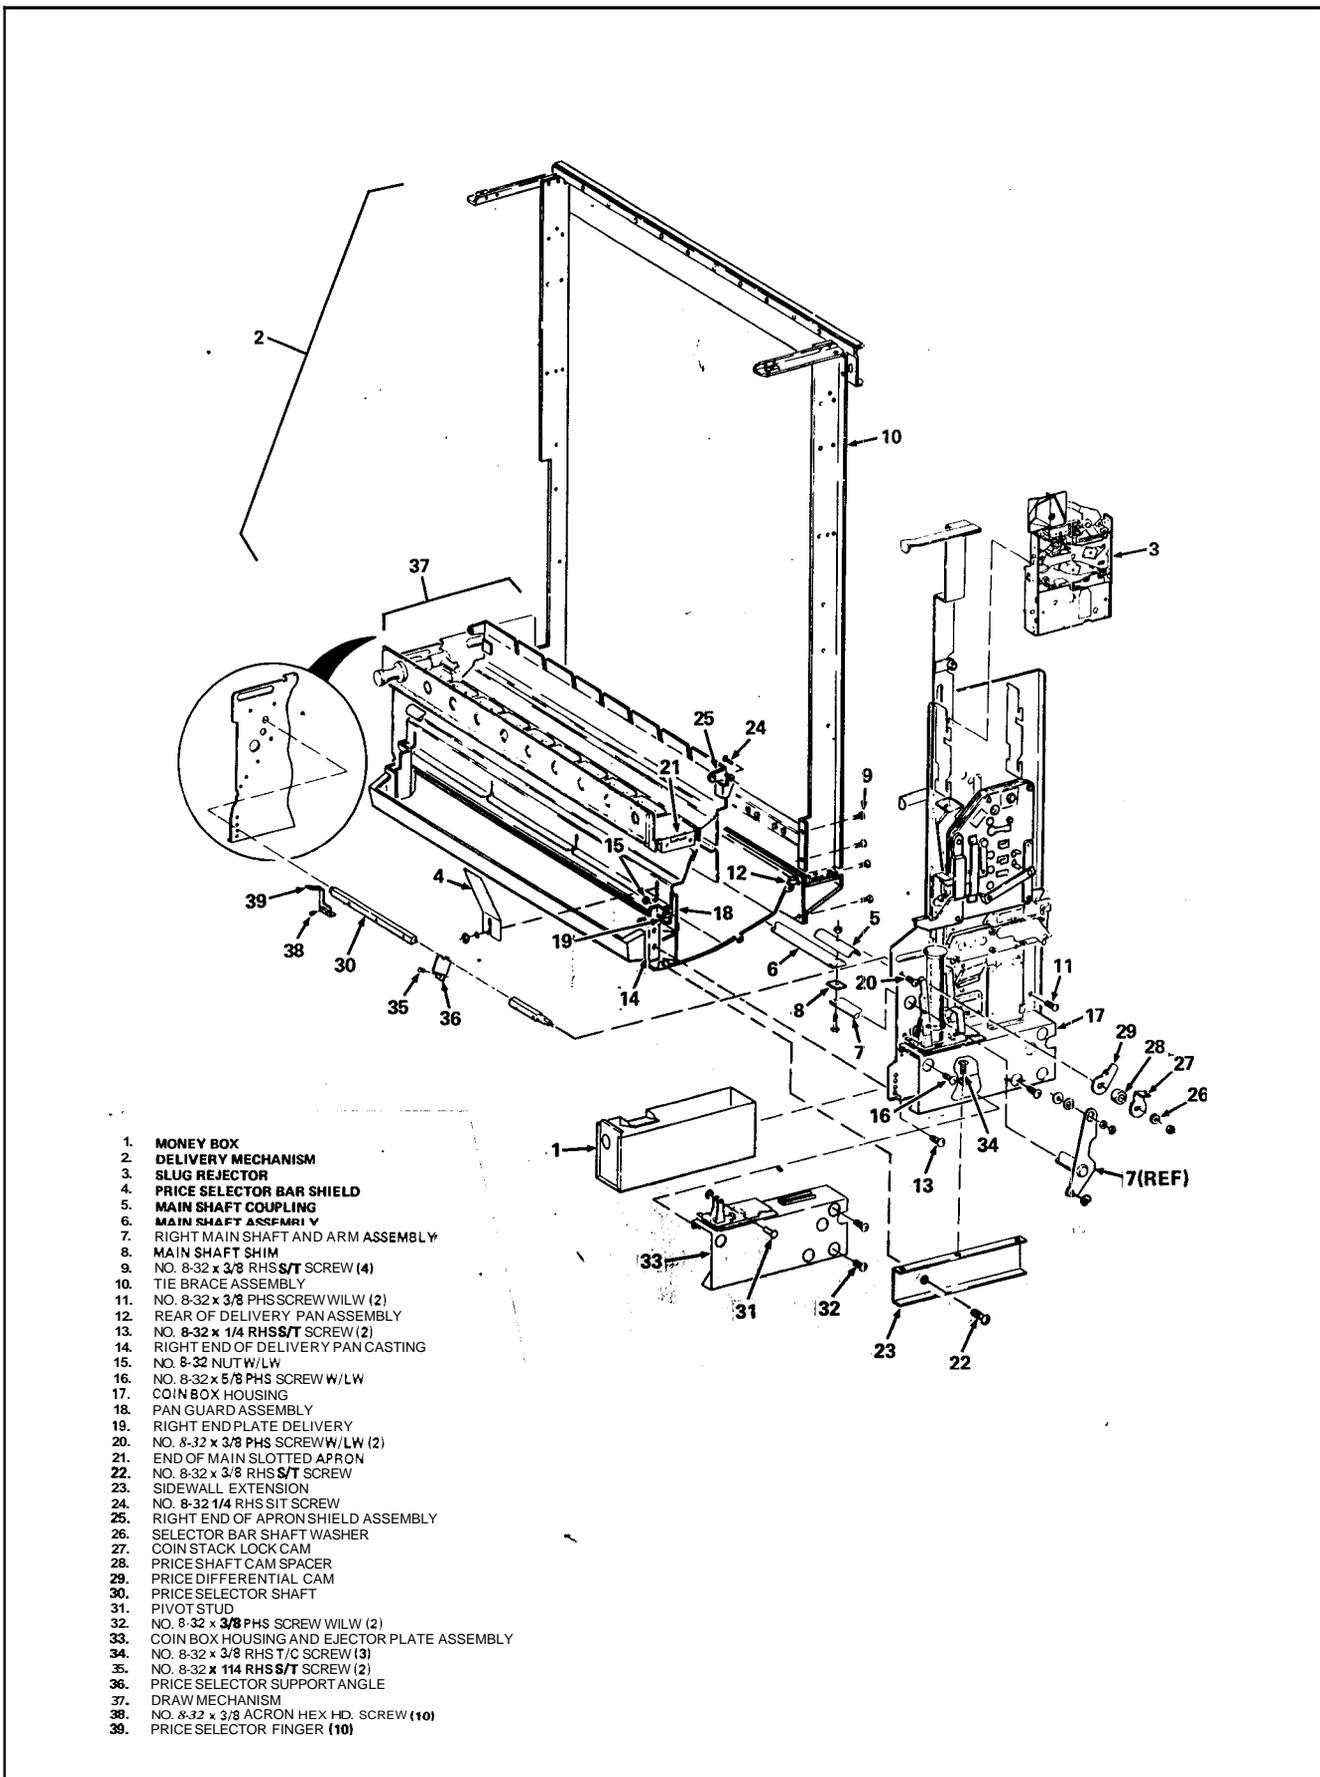

FIGURE 5-1
8. Remove the Delivery Mechanism from the Cabinet and lay on a suitable workbench. See Figure 5-1.
9. Remove the Slug Rejector Assembly from the Right Sidewall. Retain the Slug Rejector Assembly for use on the replacement Right Sidewall and ACMR Assembly. See Figure 5-1.
10. Loosen a No.8-32 Nut with Lockwasher and remove the Price Selector Bar Shield from the Pan Guard Assembly. Tighten the Nut. See Figure 5-1.
11. Remove a No.10-32 Nut, Main Shaft Bolt and Main Shaft Coupling from the left Main Shaft Assembly and Right Main Shaft and Arm Assembly of the Delivery Mechanism. Retain the No.10-32 Nut, Main Shaft Bolt, and Main Shaft Coupling for use during installation of the Kit. See Figure 5-1.
12. Remove the Main Shaft Shim from between the left Main Shaft Assembly and Right Main Shaft and Arm Assembly. See Figure 5-1.
13. Remove four No.8-32 x 3/8 RHS Self Tapping Screws attaching the Tie Brace Assembly to the lower rear part of the Right Sidewall. See Figure 5-1.
14. Remove two No.8-32 x 3/8 PHS Screws with Lockwashers attaching the Right Sidewall to the Angle Brackets on the rear of the Delivery Pan Assembly. See Figure 5-1.
15. Remove two No.8-32 x 1/4 RHS Self Tapping Screws attaching the Bracket on the right end of the Delivery Pan Casting to the front edge of the Right Sidewall. See Figure 5-1.
16. Remove a No.8-32 Nut with Lockwasher and No.8-32 x 5/8 PHS Screw with Lockwasher attaching the Coin Box Housing and front of the Right Sidewall to the Pan Guard Assembly and the Right End Plate Delivery. See Figure 5-1.
17. Remove two No.8-32 x 3/8 PHS Screws with Lockwashers attaching the Right Sidewall to the end of the Main Slotted Apron. See Figure 5-1.
18. Remove a No.8-32 x 3/8 RHS Self Tapping Screw attaching the Sidewall Extension to the front part of the Delivery Pan Assembly. See Figure 5-1.
19. Remove a No.8-32 x 1/4 RHS Self Tapping Screw attaching the inside of the Right Sidewall to the right end of the Apron Shield Assembly. See Figure 5-1.
20. Remove a No.10-32 Nut, Selector Bar Shaft Washer, Coin Stack Lock Cam, Price Shaft Cam Spacer and Price Differential Cam from the Price Selector Shaft. See Figure 5-1.
21. Remove the Right Sidewall Assembly from the Delivery Mechanism. See Figure 5-1.
22. Remove two Retaining Rings, a Washer, and the Right Main Shaft and Arm Assembly from the Right Sidewall. Retain the Right Main Shaft and Arm Assembly for use on the replacement Right Sidewall and ACMR Assembly. See Figure 5-1..
25. Remove a .125 Retaining Ring, Pivot Stud, two No.8-32 Nuts with Lockwashers, two No.8-32 x 3/8 PHS Screws with Lockwashers, and the Coin Box Housing and Ejector Plate Assembly from the Right Sidewall. See Figure 5-1.
26. Remove three No.8-32 x 3/8 RHS Thread Cutting Screws and the Sidewall Extension from the Right Sidewall. Retain the Sidewall Extension for use on the replacement Right Sidewall and ACMR Assembly. See Figure 5-1.
27. Remove two No.8-32 x 1/4 RHS Self Tapping Screws and Price Selector Support Angle from the Pan Guard Assembly. See Figure 5-1.
28. Remove the Price Selector Shaft from the Draw Mechanism. See Figure 5-1.
29. Remove ten No.8-32 x 3/8 Acorn Hex Head Screws and ten Price Selector Fingers from the Price Selector Shaft. Retain the Screws and Price Selector Fingers for use in installing the Kit. See Figure 5-1.
30. Thoroughly clean the Draw Mechanism. See Figure 5-1.